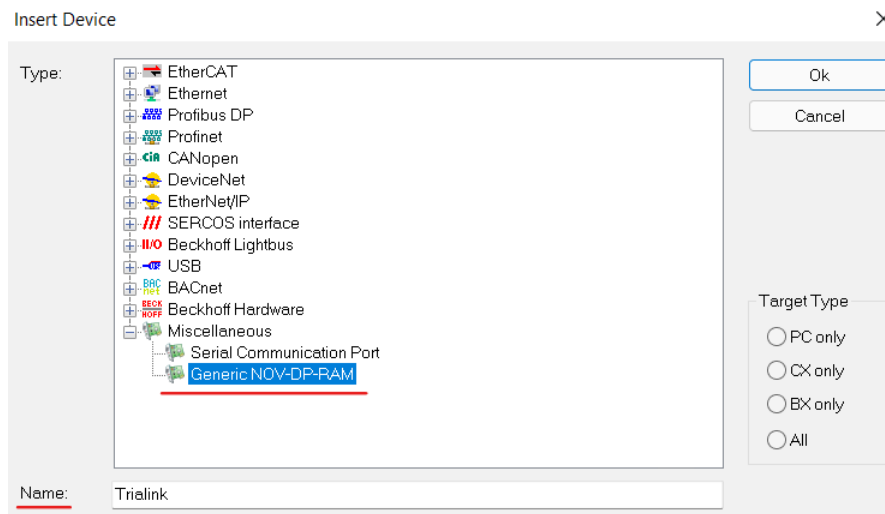

Figure 2: Add a Tria-Link Adapter to the solution
2. In the dialog select **Miscellaneous > Generic NOV-DP-RAM** (Figure 2).